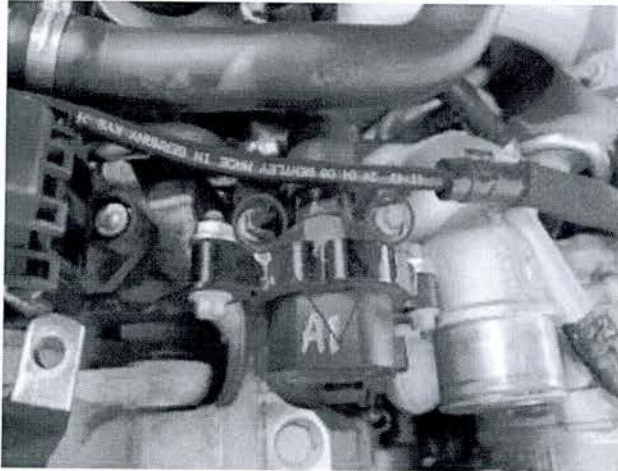

Figure 12
14. Remove the two fasteners securing the charging post bracket assembly and remove the assembly (see Figure 12)